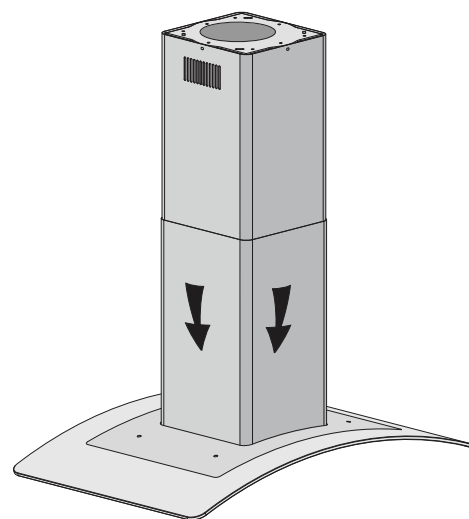

Figure 10
- After finishing all the above installation steps, remove the 'S' hook and put down the lower chimney (see Figure 10).